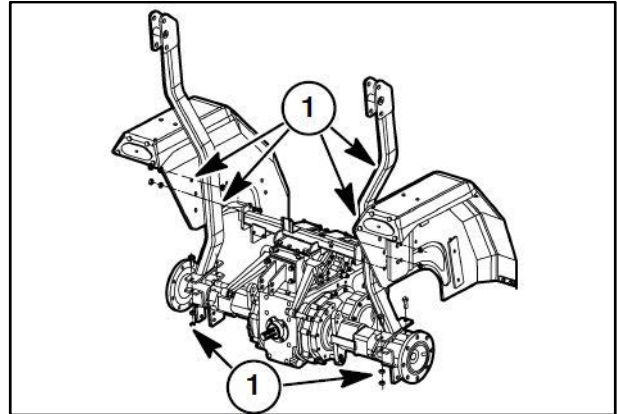
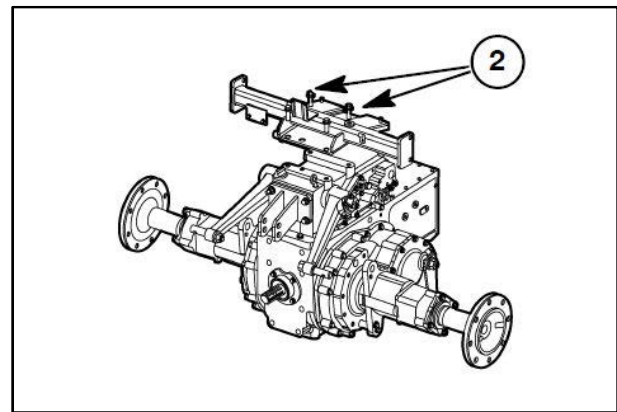

Figure 3-29
Figure 3-30
1. Check the torque of the ROPS mounting bolts, (1) in Figure 3-29, and (2) in Figure 3-30. Tighten the bolts (1) in Figure 3-29, and (2) in Figure 3-30, to the correct torque of 74.5 N·m and nuts.